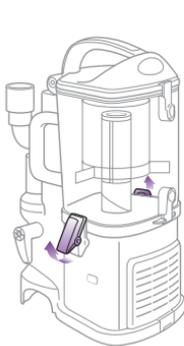

Fig. 17
- Undo the latches on the sides of the dust cup by lifting them up and outwards to remove the dust cup from the motor base. **(Fig. 17)**